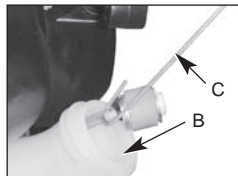

Fig. 23
1. Completely remove fuel cap from fuel tank (B) to be able to remove fuel filter (C) from tank. Use a piece of wire (C) with a hook formed at the end to pull filter out of tank. (Fig. 23)